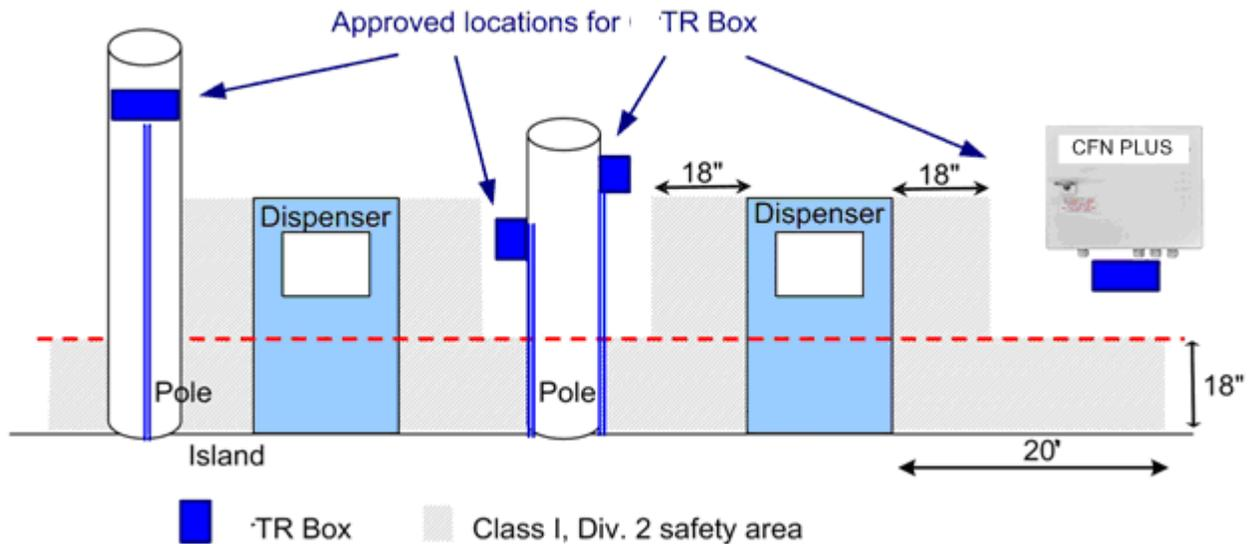

Figure 2-2. Tag Reader, Outdoor Installation Control Drawing
Due to safety requirements, the Tag Reader box can be installed *only* in non-hazardous areas/ non-classified area. Hazardous areas are shown in grey in the control drawing (see Figure 2-2). Therefore, the Tag Reader must be installed within the following boundaries:
Figure 2-2 shows various possible installation locations for the Tag Reader Box.
1. Install the Tag Reader in a non-hazardous area in accordance with Figure 2-2.